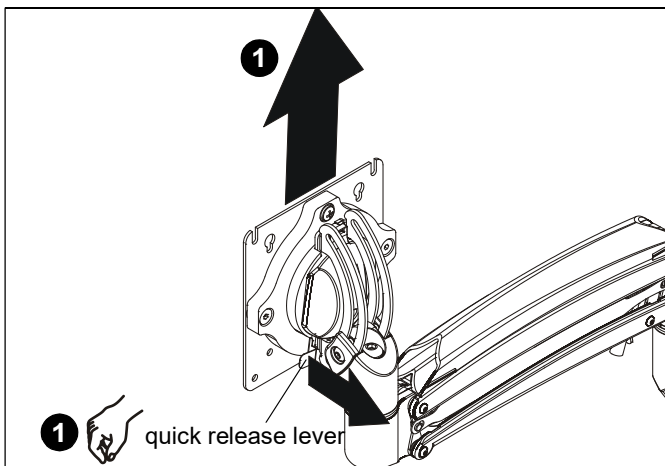

Figure 10
1. Remove quick release faceplate from mount by pulling quick release lever and sliding faceplate off mount. (See Figure 10)